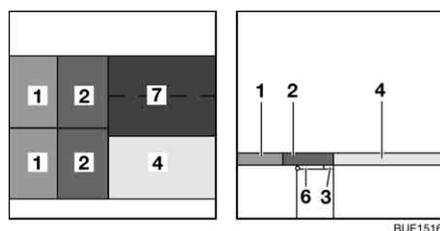

Fig. 139 After conversion
- Place the seat cushions (Fig. 139,2) on the unfolded bench seat cover.
- Unfold the extra cushion (Fig. 139,7) and lay it on the table in front of the seat cushion (Fig. 139,4).